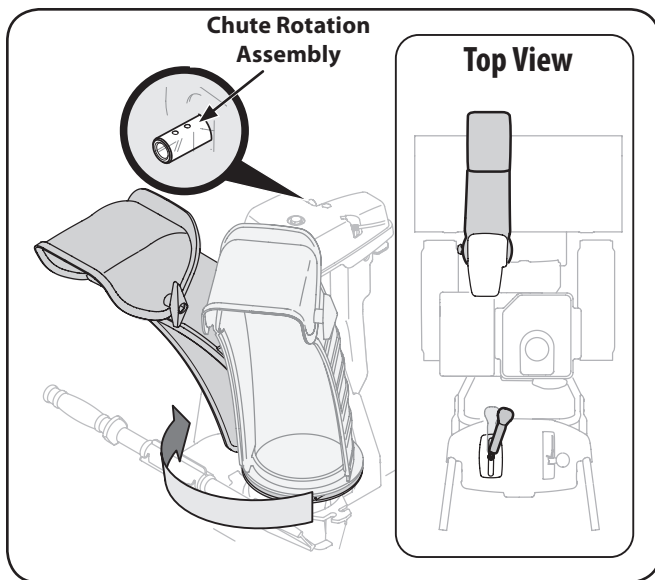

Figure 3-8
4. Squeeze the trigger on the joystick and rotate the chute by hand to face forward. The holes in the chute rotation assembly will be facing up. See Fig. 3-8.
NOTE: The joystick will be angled slightly to the right at the one o'clock position. See "Top View" in Fig. 3-8.